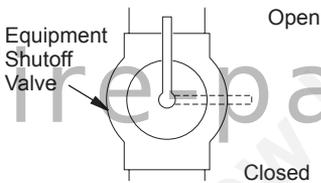

Figure 14 - Equipment Shutoff Valve
1. Open equipment shutoff valve (see Figure 14).